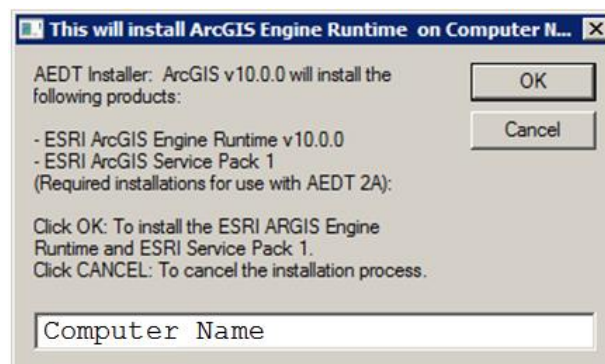

Figure 2-16 ArcGIS Engine Runtime
8. Log back into the computer as administrator. The Esri installation will continue after the system restart (Figure 2-16). Do not change the computer name that is displayed. Click OK to start ArcGIS Engine Runtime 10.0 and Service Pack 1 installation.
If the Esri installation does not automatically continue after the system restart (Figure 2-16 does not appear after restart), navigate to the `C:\ESRI_Setup` directory and double-click on `RunArcGISInstall.vbs`.